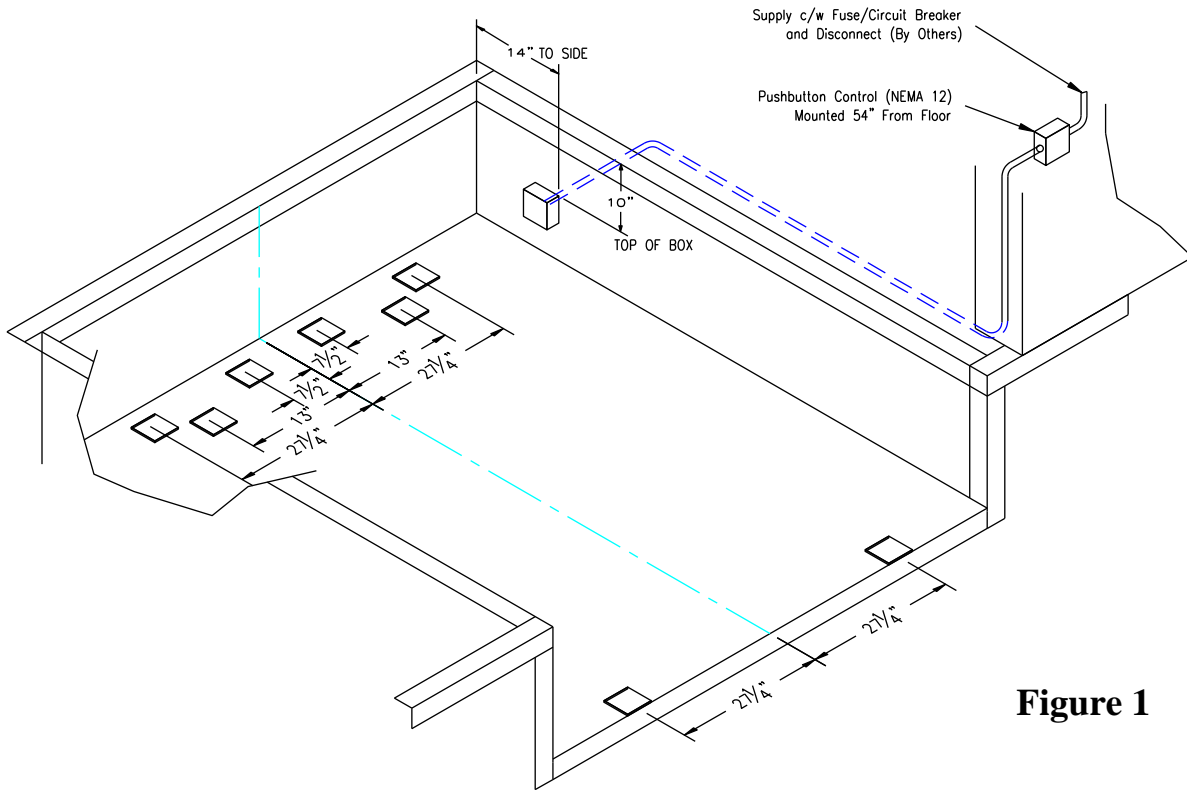

Figure 1
3. **The rear shims must be measured and welded to the bottom of the rear frame before the dock leveler is placed into the pit.** In order to build up the correct height of shims at each support point, lay a taught string line across the side curb steel approximately 5" in from the rear angle. Stack shims until they are 19" (+1/16" –0") or 23" (+1/16" –0") below the string line. Make sure shim heights are all the same depth from the edge of the pit area. See **Figure 1** for correct placement of shims.
11. Shim under the front of the leveler frame at the locations in **Figure 1** so that the top of the deck is flush with the building floor (-1/16" +0"). Weld the shims together and then to the dock frame and front curb angle. See **Figure 6**.